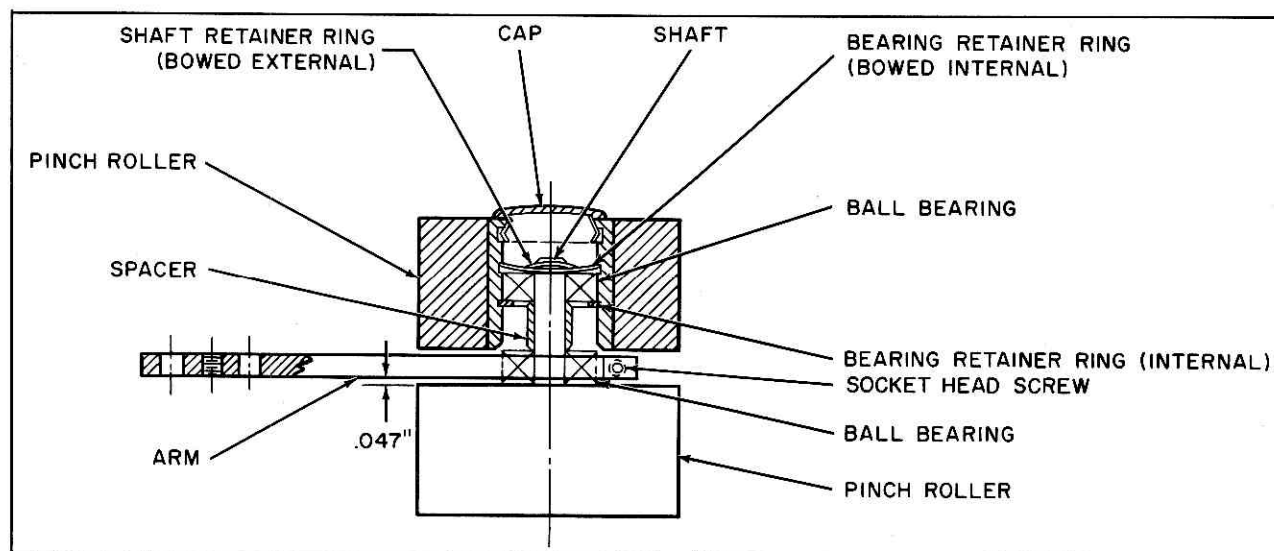

Figure TTP-10. ~~Capstan Pinch Roller~~ Capstan Pinch Roller
3. Remove the end cap (fig. TTP-10) on the outside roller by prying it off with a small screwdriver.